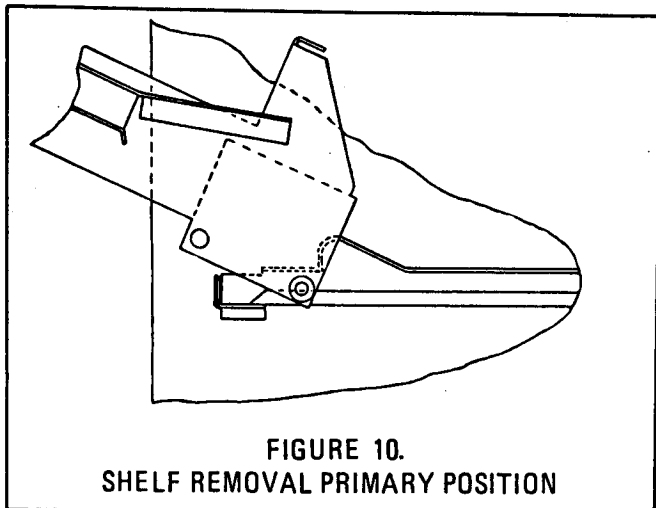

FIGURE 10.
2. Lift front of the shelf and continue to pull forward, making sure that the retaining studs clear the gap in the shelf supports. (See Figure 10.) Continue pulling shelf forward until it stops.